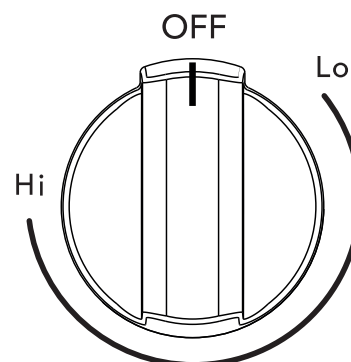

Figure 7: Keep warm knob
1. Push in the knob and turn in either direction (see Figure 7). The temperatures are designated by hi and lo. However, the control can be set at any position between hi and lo for different levels of warming.